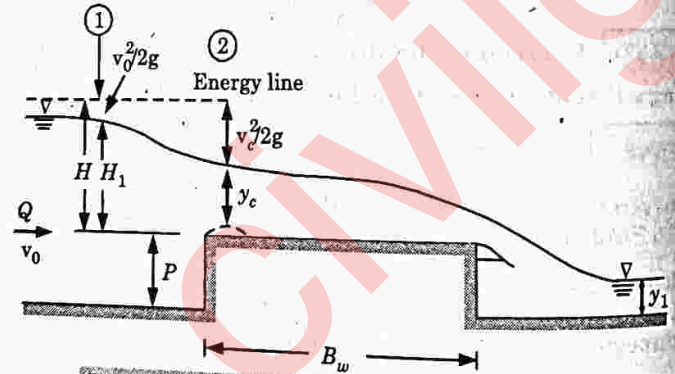

Fig. 2.28.1. Definition sketch of a broad-crested weir.
- Fig. 2.28.1 is a definition sketch of a free flow over a horizontal broad-crested weir in a rectangular channel.
- Assuming no loss of energy between Sections 1 and 2 (Fig. 2.28.1), and further assuming the depth of flow at Section 2 to be critical,